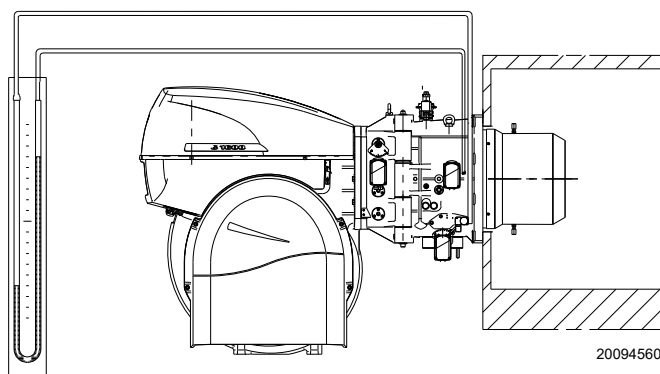

Fig. 26
- Fit a U-type pressure gauge or a differential pressure gauge (Fig. 26), with socket (+) on the gas pressure of the pipe coupling and (-) in the combustion chamber. The manometer readings are used to calculate MAX burner output.
The arrival of gas at the sleeve is indicated by the U-type manometer (Fig. 26).